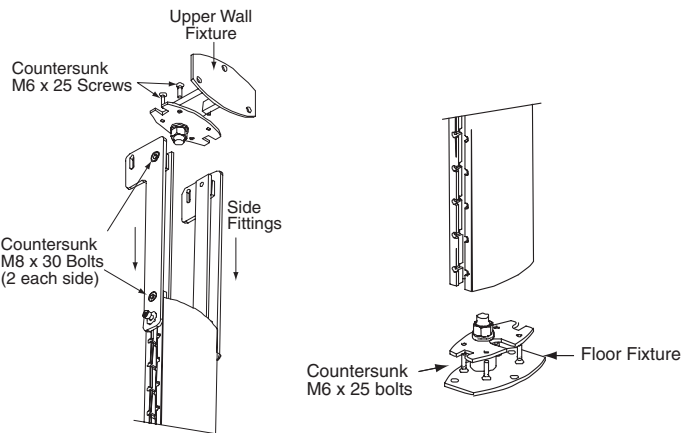

Figure 1
- ① Installer must make sure plasma display mount is positively and securely attached, and that fasteners appropriate to materials are used.
- ② Before installing, check to make sure all parts of the mount are there.
- ③ Assembly hardware is included; fasteners for attaching mount to wall and floor are not included.
- ④ Make sure all screws and bolts are tightened before allowing Mount to bear the full weight of the plasma display.
- ⑤ At least two people are required to assemble and mount this product.
- ⑥ All assembly screws require Allen wrench (included).
- ① Push in the side fittings (see Fig. 1).
- ② Fasten the upper wall fixture inside the aluminum pillar with 4 countersunk M6 x 25 bolts (see Fig. 1).
- ③ Mount side fittings at the desired height. Insert four M8 x 30 bolts (2 per side) where indicated. Tighten all bolts (see Fig. 1).
- ⑤ Fasten the floor fixture inside the aluminum pillar with 4 countersunk M6 x 25 bolts (see Fig. 1).
- ⑥ PLEASE NOTE: This step requires two people: Use the wall fixtures as a template to mark where to drill holes for the wall and floor screws. Use level to check alignment, drill holes and fasten fixtures to wall and floor.